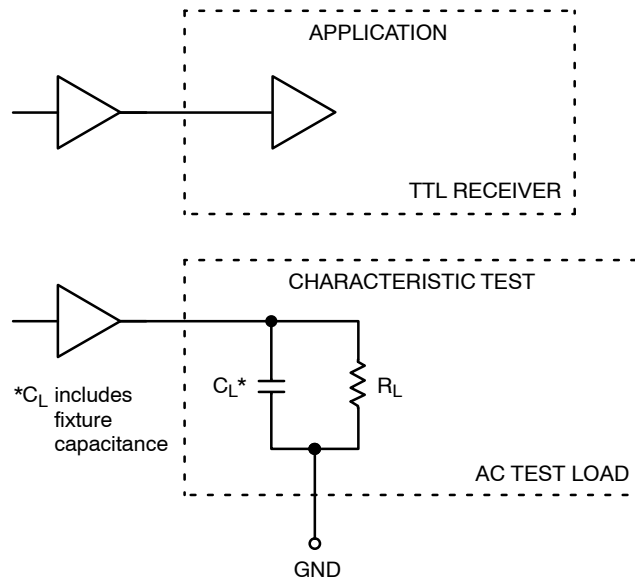

Figure 3. TTL Output Loading Used For Device Evaluation
5. Measured with a 750 mV 50% duty-cycle clock source.  $R_L = 500\ \Omega$  to GND and  $C_L = 20\text{ pF}$  to GND. Refer to Figure 3.